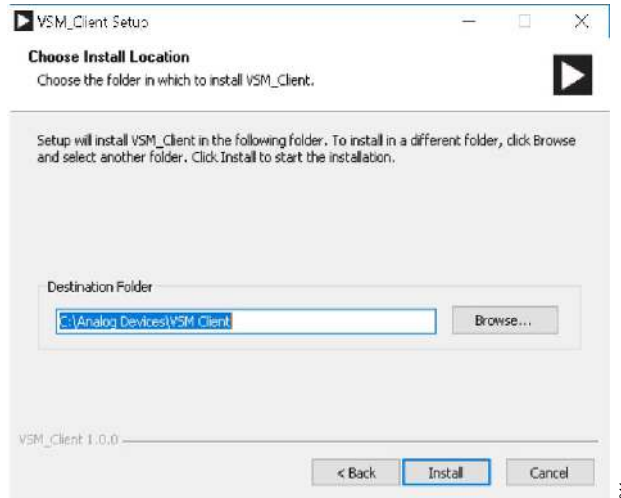

Figure 11. Choose Installation Location
4. Click **Browse...** to choose the installation location and then click **Next >** (see Figure 11).